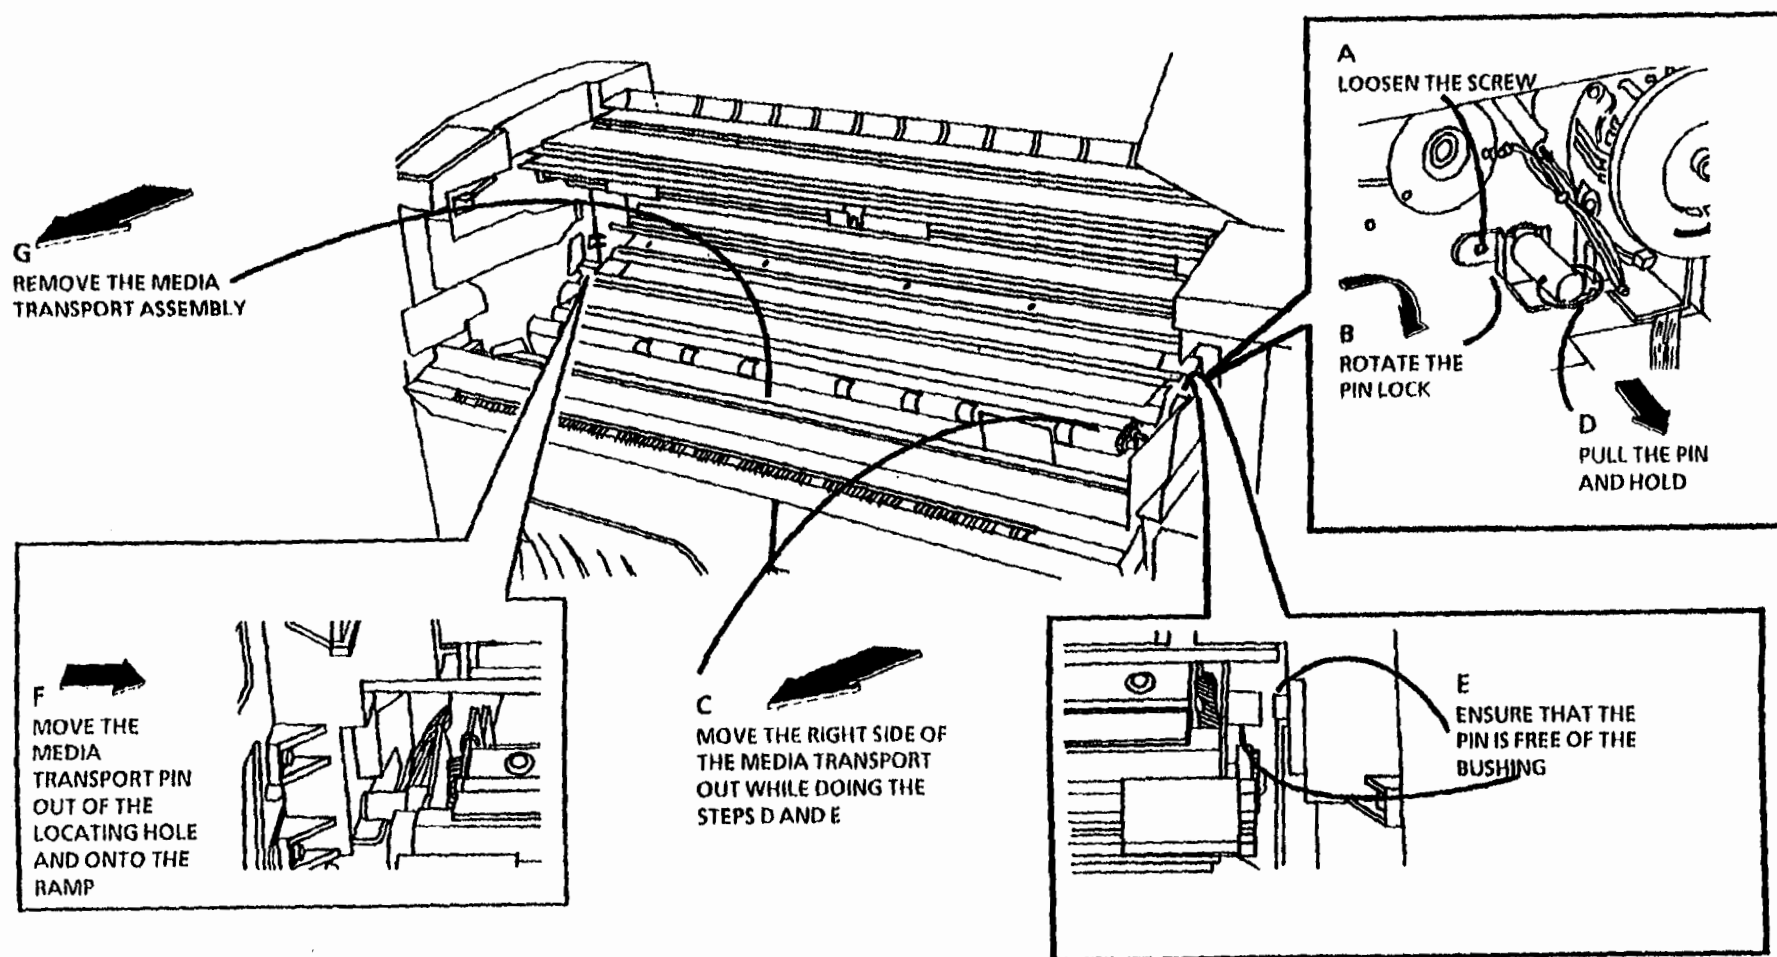

Figure 2. Remove the Media Transport Assembly
5. (Figure 2): Remove the Media Transport Assembly.